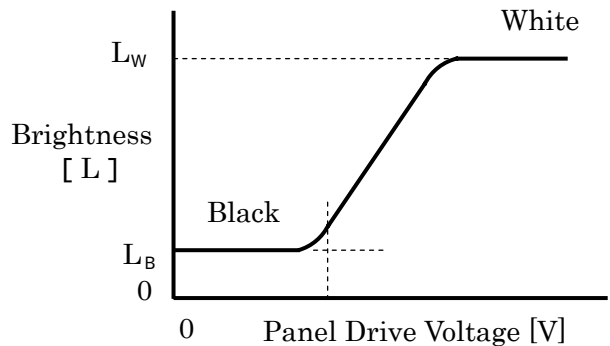

Fig.9-4. Voltage-Brightness Characteristics
Determined by Formula (1) based on Fig.9-4. Voltage-Brightness Characteristics.
Based on Figure 9-4.